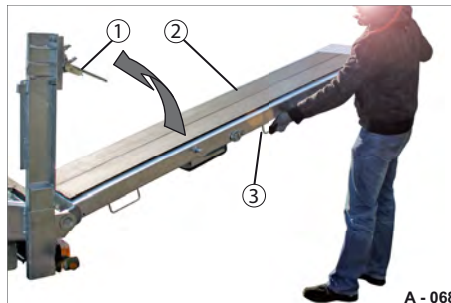

Fig. 105 Raising the drive-up ramp, one-piece
- ▶ Raise the ramp (Fig. 105/2) by the handles (Fig. 105/3).